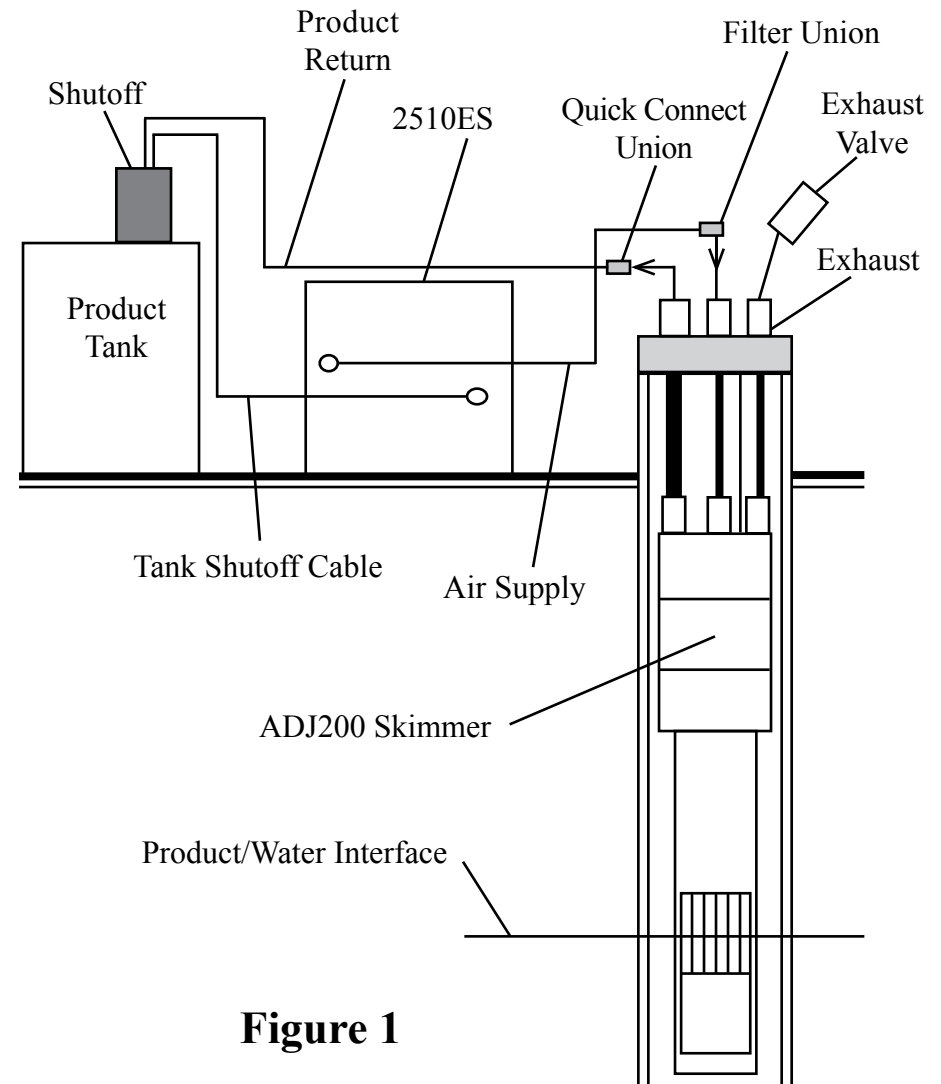
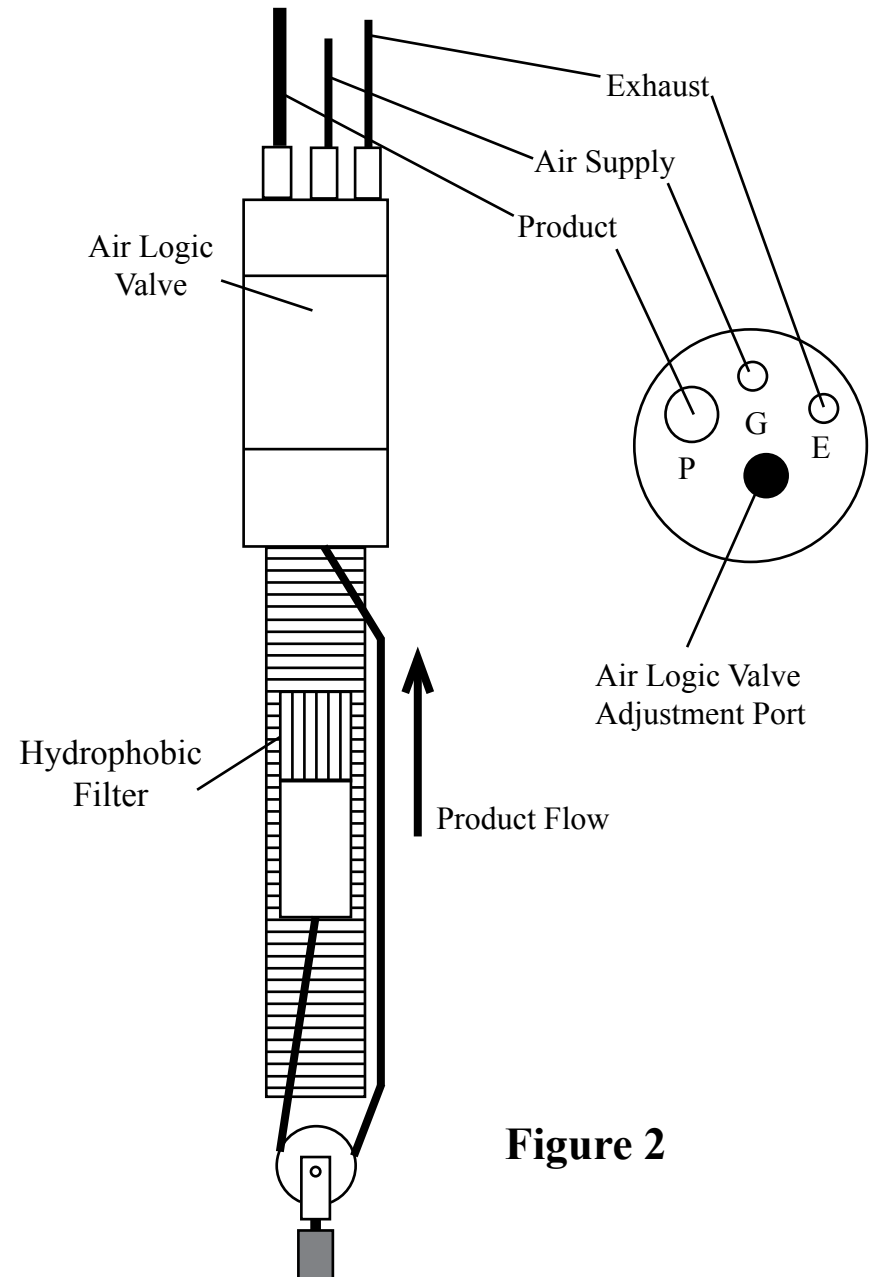

Figure 1
Figure 2
The system (Figure 1) relates to floating hydrocarbon recovery in wells two inches in diameter and larger. This system includes: an intrinsically safe ADJ200 pneumatic Smart Skimmer (Figure 2) which removes only the product to a sheen down to 200 feet deep; and a electronic Control Station Model 2510ES which operates the skimmer intermittently, records run time, and has a high level tank shutoff.
STEP 1. Place electronic Control Station Model 2510ES (Figure 1) near the air source, power source, and holding tank if possible. **CAUTION:** The standard electronic controller is NOT intrinsically safe. If this controller must operate in a CLASS I area, the XITECH Model 2550ES CLASS I controller will be required.
STEP 2. Install holding tank shutoff assembly into holding tank (a 2" standard pipe inlet will be required in the holding tank). The level of product in the holding tank can be set by raising or lowering the liquid level float switch rod. Plug the high level shutoff switch cable connector into the left end of the controller (Figure 1).
STEP 3. Attach power line from the AC power source to the right end of the control station (Figure 1). Turn on the controller power switch. If the red "Product Tank Full" light stays on, you have a problem with tank shutoff wiring. Turn off the power switch and re-check the tank shutoff wiring. If the light continues to stay on, call the factory.
STEP 7. Position the skimmer and well cap on the ground near the well. Cut a length of 1/4" OD air supply tubing to cover the distance from the top of the well down to water/product interface, plus 5 feet. **NOTE:** If the skimmer is over 70 feet deep, use 3/8" OD air supply tubing in stead of 1/4" OD tubing. Slide enough tubing through the well cap and attach the end of the tubing to the top of the skimmer tube fitting labeled "G" (Figure 2). If the product thickness is greater than 1 foot, position the skimmer's "Black Reference Line" on skimmer well screen 1 foot below top of product. If the product thickness is less than 1 foot, position the skimmer's "Black Reference Line" on skimmer well screen at the water/product interface.
STEP 8. Cut a length of 5/16" OD product tubing same length as the air supply line. Install 5/16" OD product tubing through the well cap tube fitting labeled "P" (Figure 2). Slide enough tubing through the well cap and attach the end of the tubing to the top of the skimmer tube fitting labeled "P". **CAUTION:** Do not kink the tubing.